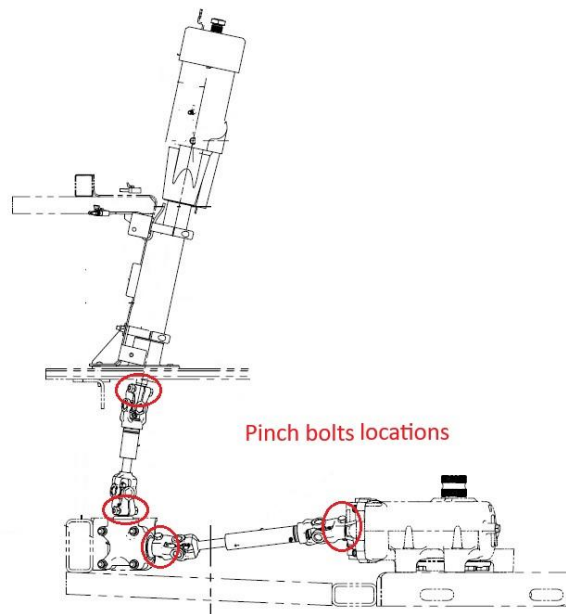

Figure 1: Steering shaft collar location reference.
2. Inspect upper and lower steering shaft collar (4 locations) to ensure the shaft collar are fully engaged on to the steering shaft. See figure 1 and 2.